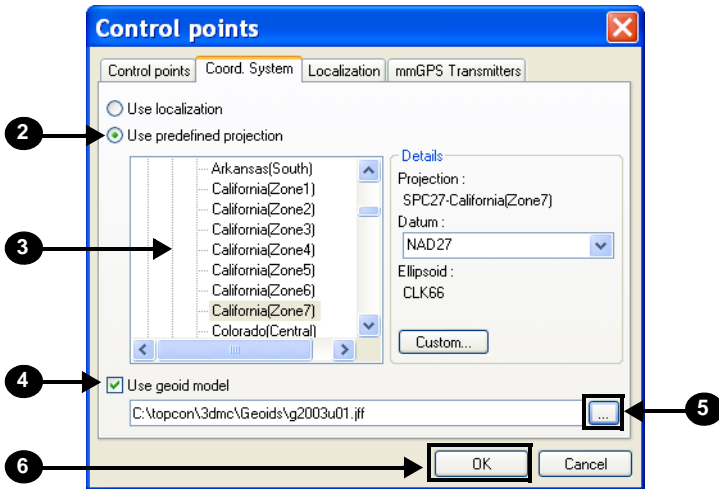

Figure 2-25. Select Projection
There will be a listing of *projection*, *datum*, and *elevation* information (Figure 2-25 on page 2-21).
6. Press **OK** to save the setting(s) and apply them to the project (Figure 2-25).